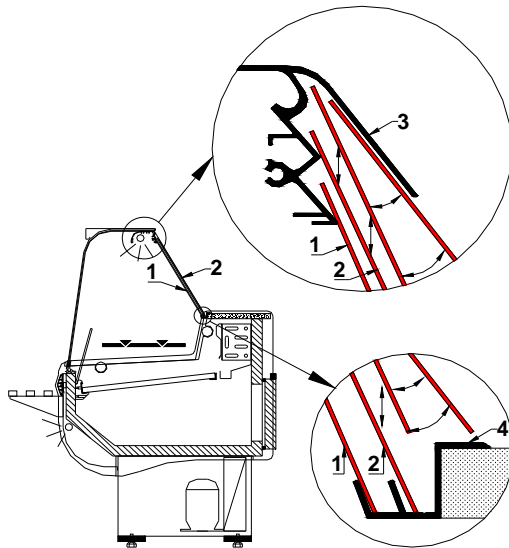

Fig.5 Assembly/disassembly of night screens
7. Mount night screens *Fig.5/ 1;2 (p.9)*